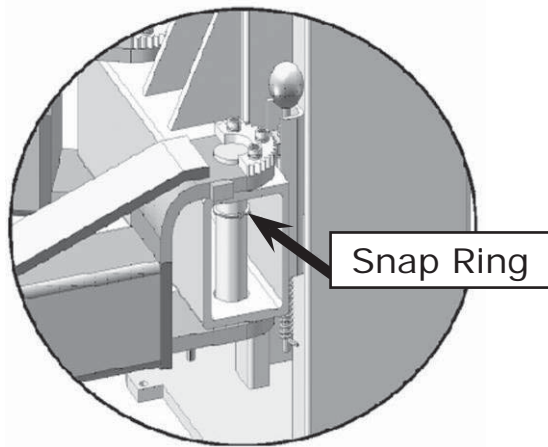

Fig. 23
1. Install the lifting arms (See Fig. 23)